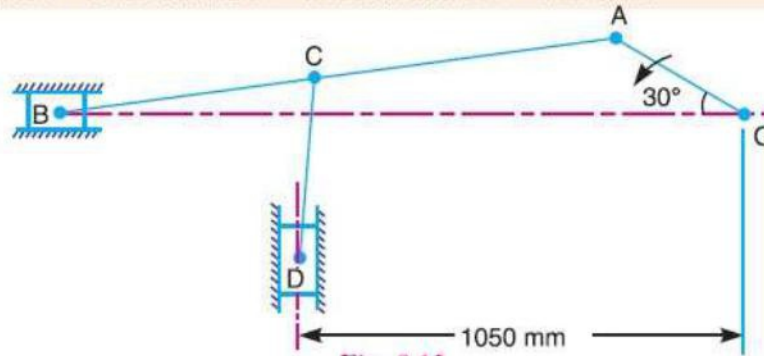

Fig. 8.12
**Example 8.6.** In the mechanism, as shown in Fig. 8.12, the crank  $OA$  rotates at 20 r.p.m. anticlockwise and gives motion to the sliding blocks  $B$  and  $D$ . The dimensions of the various links are  $OA = 300$  mm;  $AB = 1200$  mm;  $BC = 450$  mm and  $CD = 450$  mm.